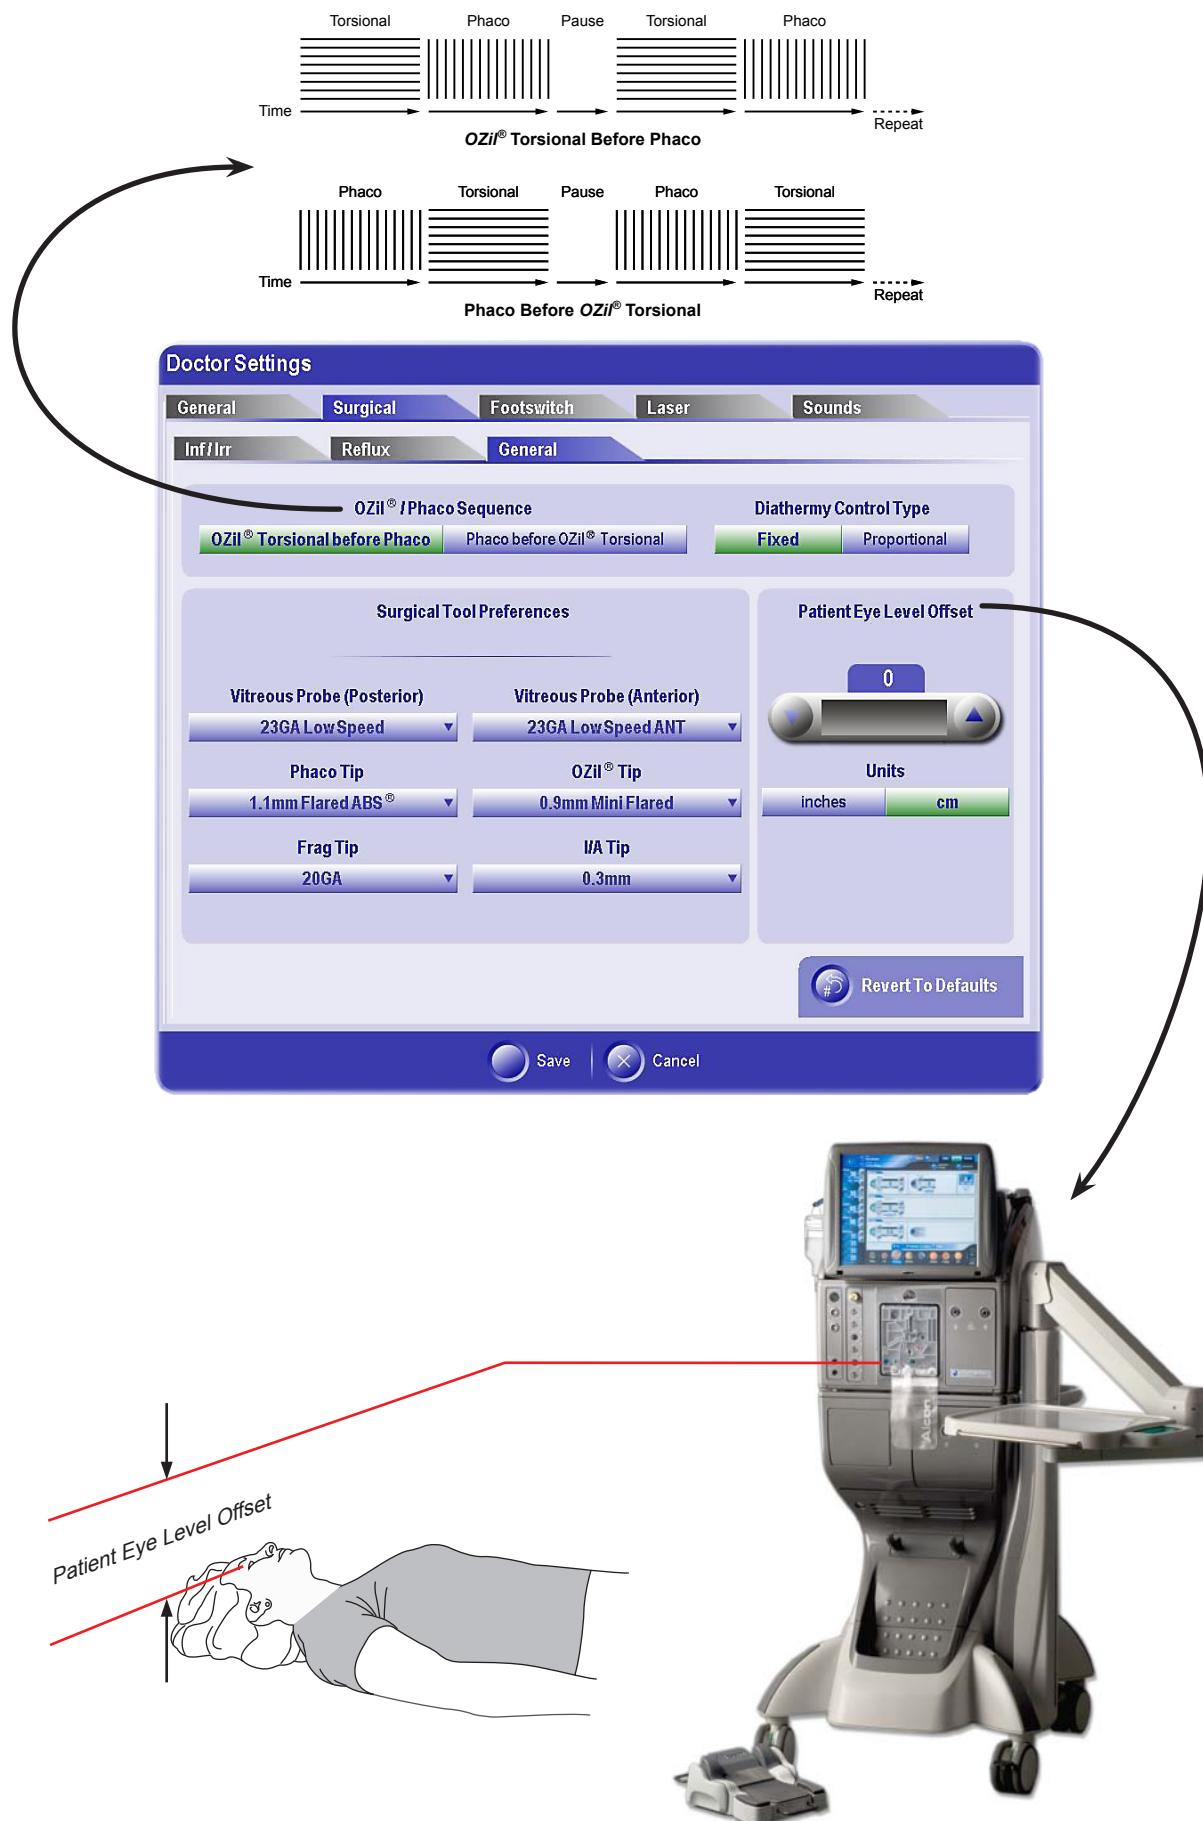

Figure 2-13 The Doctor Settings Popup - Surgical/General Tab
The General sub-tab (shown in Figure 2-13) allows the user to change the following preferences related to surgery.
- **OZil®/Phaco Sequence** - When an OZil® torsional handpiece is being used, the OZil®/Phaco Sequence setting selection determines whether the torsional or phaco pulse leads the sequence as shown in the illustration in Figure 2-13.
- **Patient Eye Level Offset** - The correct Patient Eye Level Offset setting is necessary to ensure that the displayed console readings reflect the true pressure being delivered to the eye. The Patient Eye Level Offset is the vertical distance from the patient's eye (while lying on the operating table) to the bottom row of connectors on the cassette (see Figure 2-13). This variable distance represents an amount of fluidic pressure that may add or subtract from the pressure displayed on the console. The Patient Eye Level Offset allows the user to enter this distance so the system can compensate for the fluidic pressure variable.